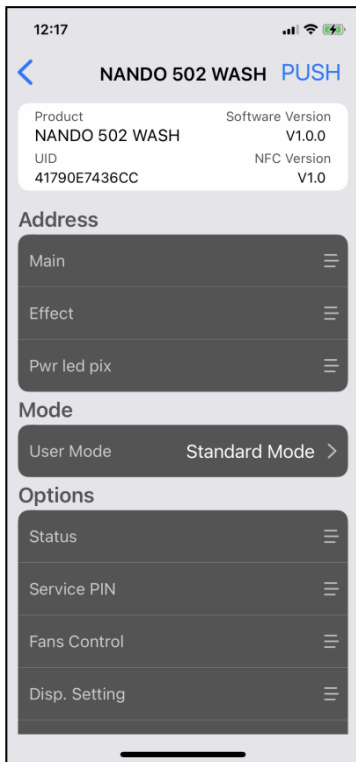
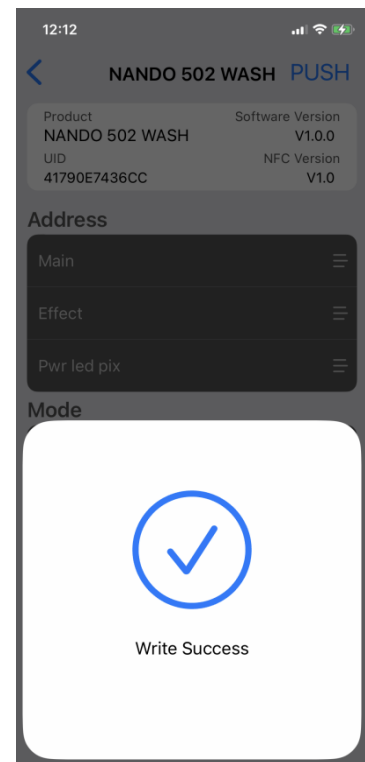

Figure 7
Figure 9
- 3) Tap 'PUSH' on the upper right corner (Figure 7, 8) and place the NFC scan area of your mobile phone close to the NFC tag area of the fixture to write into the NFC tag (Figure 9).